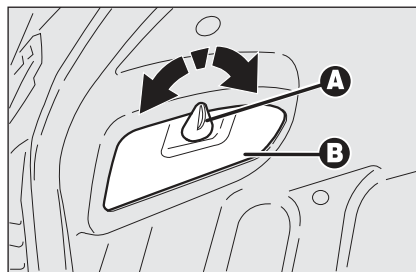

fig. 33
- ☐ turn device **A-fig. 33** to open lid **B**;
- ☐ close lid **B-fig. 33**.